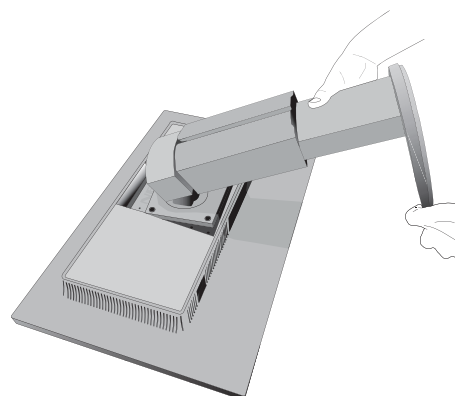

Figure S.4
6. Remove the stand (**Figure S.4**).